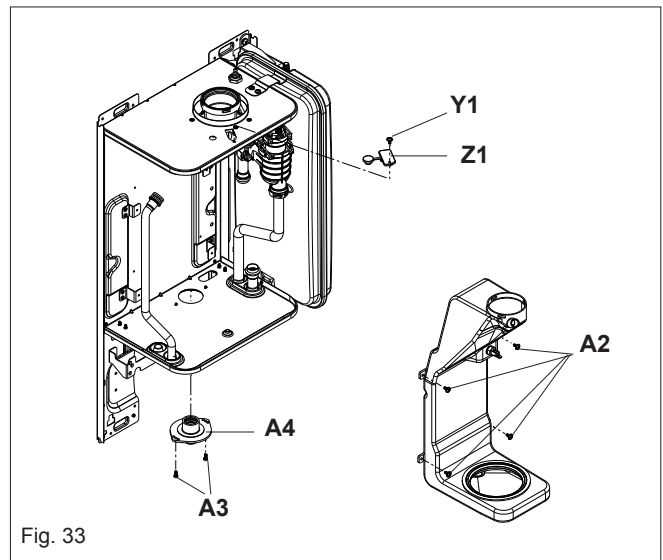

Fig. 33
### 6.20 FLUE COLLECTOR REMOVAL (fig. 33)
Set the flue gas analyser to read CO2, allow the burner to stabilise and insert the probe into the flue analysis test point (Y1-Z1 fig. 33). The appliance will operate in CO2 mode for approximately 15 minutes.
- Insert the flue gas analyser probe into the flue gas test point (see fig. 33) and compare the values with those shown in section 2 (Nat. Gas) or section 9 (LPG). If different adjust the gas valve according to 7.3.1, 7.3.2, & 7.3.3.